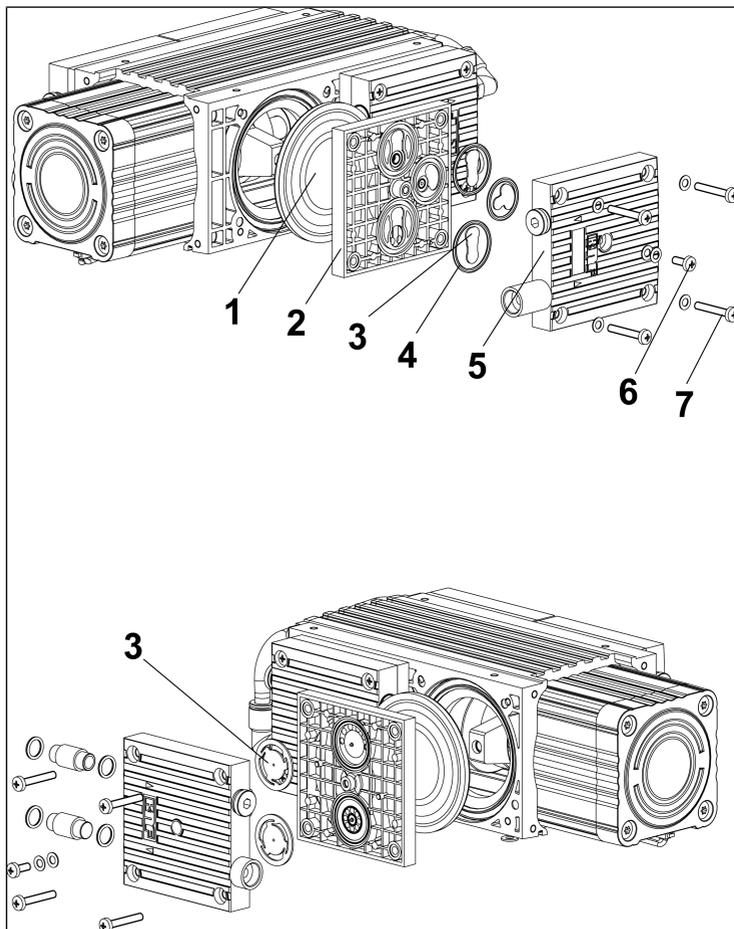

Fig.9: Exploded view
\*\*see Fig. 9
7. Loosen the outer 8 fastening screws (7/Fig. 9) of the heads (1 and 2) and remove the heads (1 and 2).
4. Place heads 1 and 2 on the compressor housing and cross-tighten the fastening screws (7/Fig. 9) hand-tight (tightening torque: 3.5 Nm).